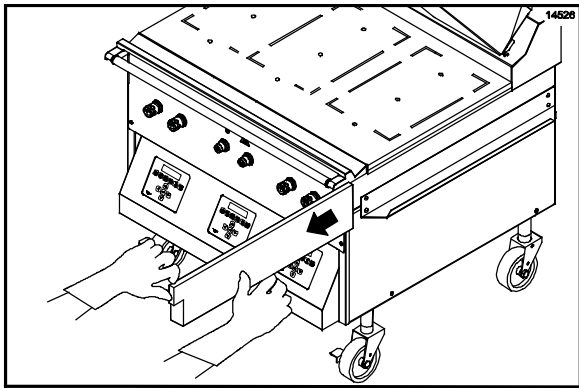

Figure 111
45. Remove and empty the grease pans. (See Figure 111.)